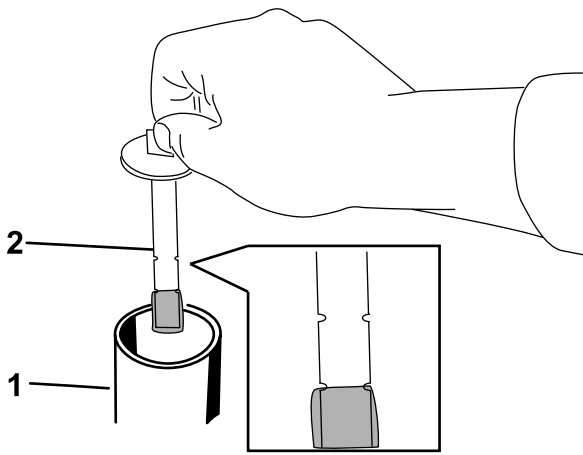

Figure 76
7. Remove the filler-neck cap and check the fluid level on the dipstick (Figure 76).